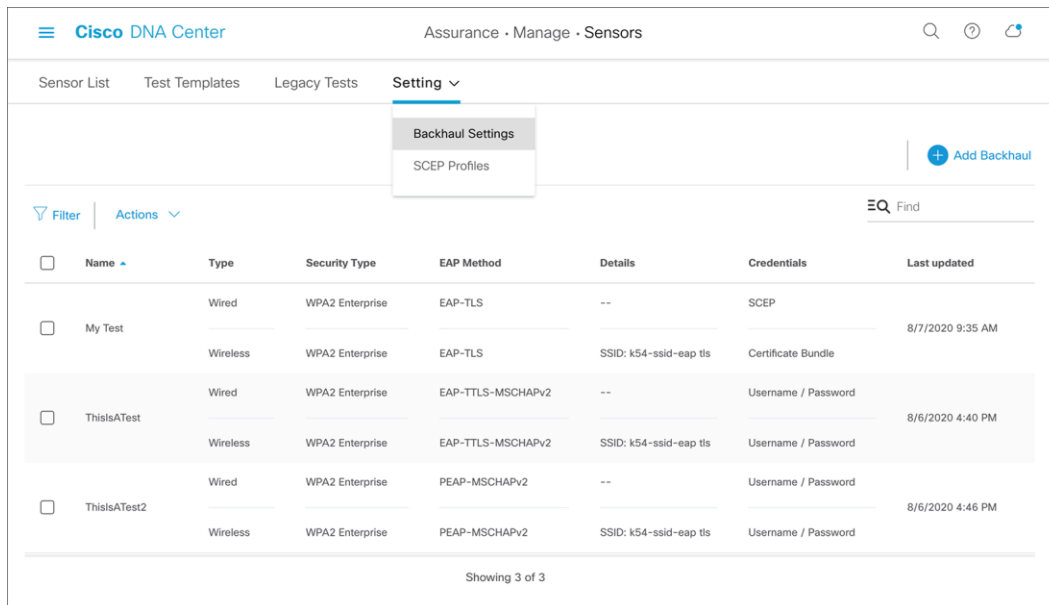

Figure 44.
1. To create a new sensor backhaul configuration, open the menu and click **Assurance > Manage > Sensors**, then **Setting > Backhaul Settings**, then **Add Backhaul (Figure 44)**.